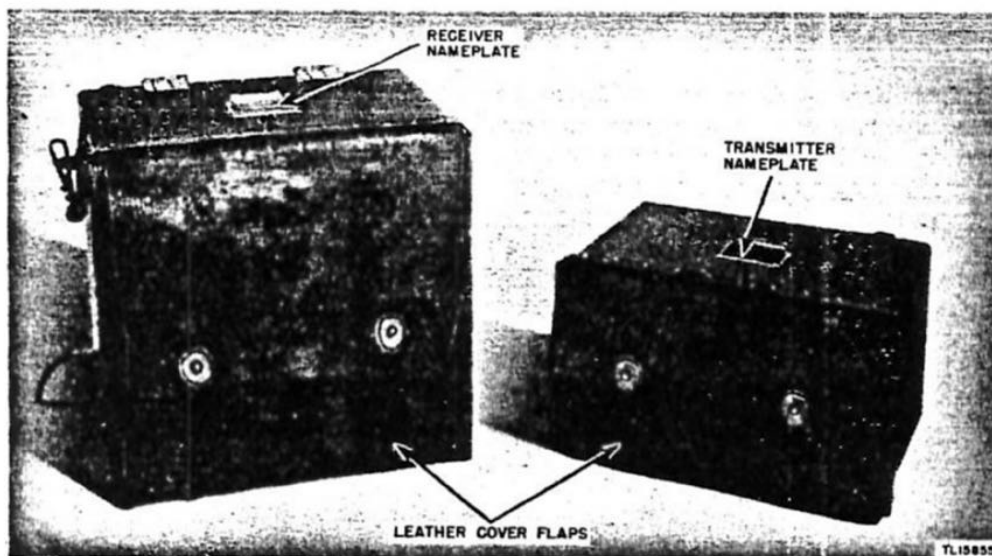
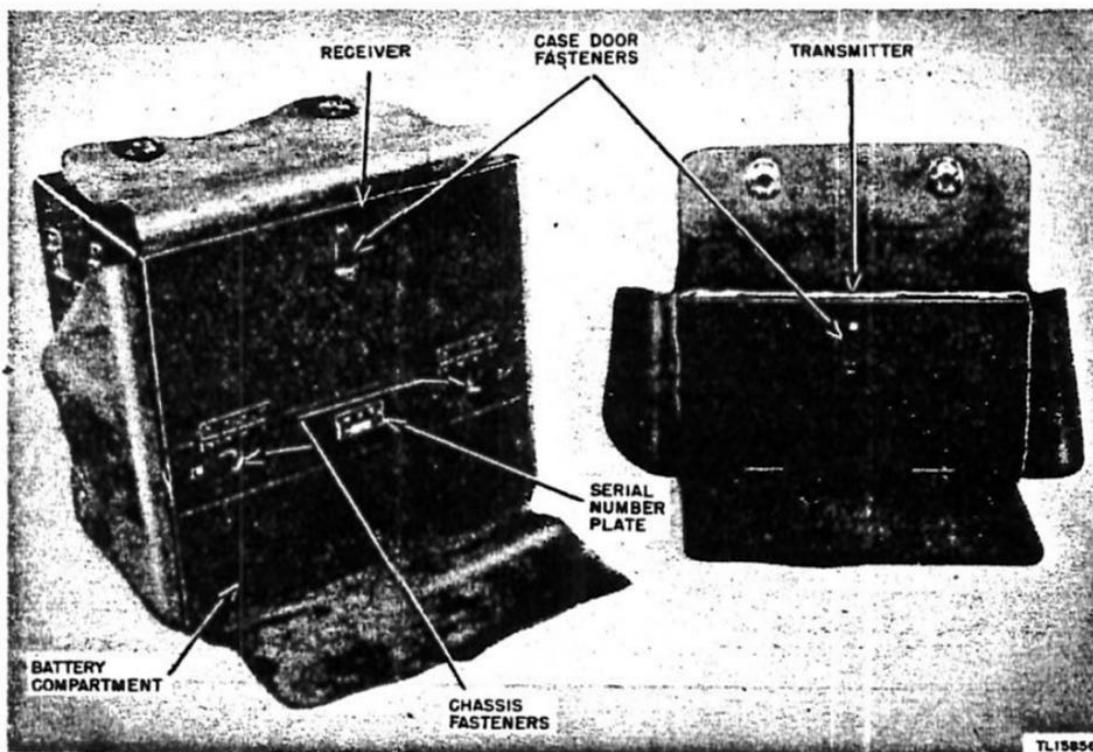

Figure 3. Japanese Radio Set Model 94 Mark 5 Wireless. Set, view of transmitter and receiver with cover flaps closed.
Figure 4. Japanese Radio Set Model 94 Mark 5 Wireless Set, view of transmitter and receiver with cover flaps open.
b. The Transmitter. The 機信送型號二三 (Mark 32 Type Transmitter) is contained in a lightweight metal case with leather or canvas cover flaps over the case door (fig. 3). Leather straps are used in carrying the transmitter between operating locations. A view of the transmitter with the cover flaps closed is shown in figure 3. Figure 4 shows the transmitter with the cover flaps open. A single dual-triode type tube is used, with one triode section modulating the second triode section for voice operation, and the two triode sections in parallel for c-w operation. The transmitter contains a switch actuated when the crystal holder is plugged into the crystal holder socket. With the crystal holder out, the transmitter oscillator circuit is a self-excited Hartley. When the crystal
c. **The Receiver.** The 機信受型号二三 (Mark 32 Type Receiver) is housed in a metal case together with its battery power supply. Leather or canvas flaps cover the front of the case and leather straps are used for carrying the case (figs. 3 and 4). The receiver is a three-tube tuned radio-frequency type and, by means of a connecting cable uses the same antenna system as the transmitter (fig. 16). The serial number plate of the receiver is shown in figure 5.
d. **Power Supply.** (1) The receiver is powered by batteries contained in the bottom of the metal housing case (figs. 4 and 6). The batteries are wired to a four-connector plug strip mounted on the rear of the receiver case which plugs into a four-connector jack strip on the receiver when the receiver is inserted into the case.